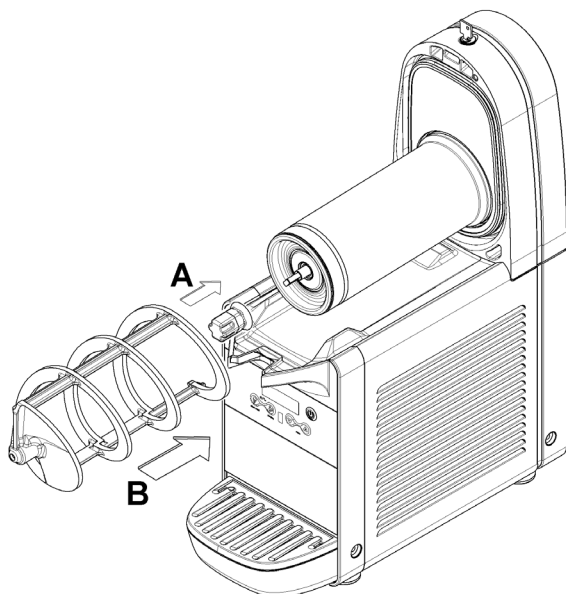

figure 18
- 5 Reassemble the hexagonal joint and then the mixer (see figure 18).